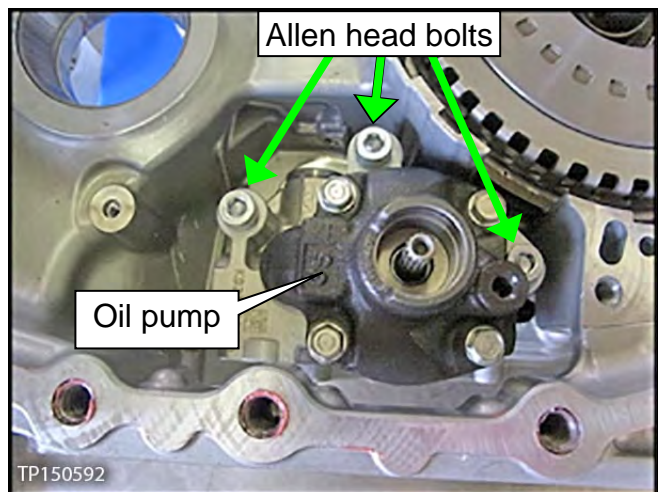

Figure 41
9. Remove the three (3) Allen™ head bolts, and then remove the oil pump (see Figure 41).